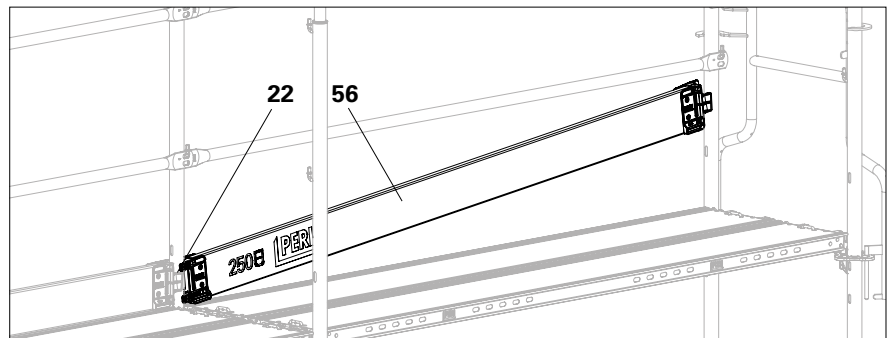

Fig. A3.05
1. Insert the Toe Board UPF (56) on one side with the end piece on the Easy Standard EVM (22).
- (Fig. A3.05)